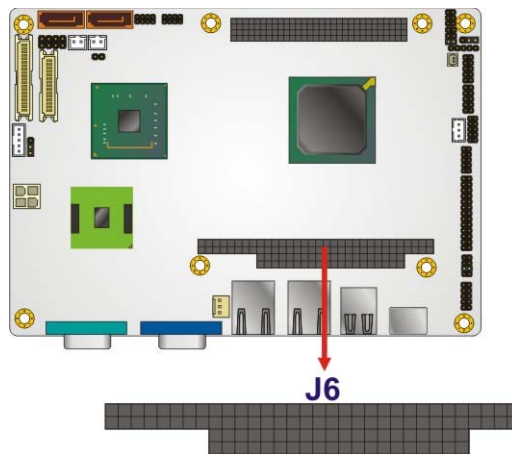

Figure 3-16: PC/104 Connector
- CN Location:** See **Figure 3-16**